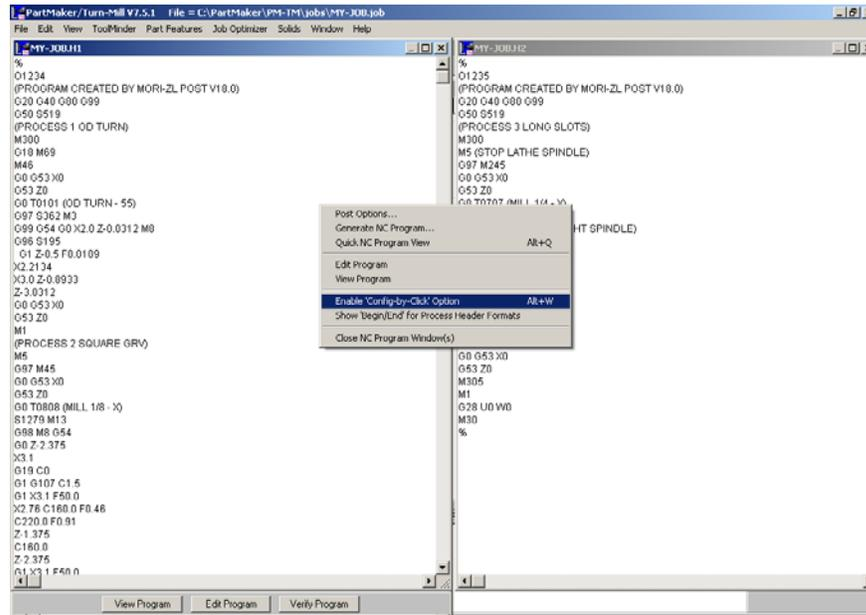

Figure 1: PartMaker's NC Viewer
- a While in PartMaker's NC Viewer, right click in the window and select the **Enable 'Config-by-Click'[®] Option** from the drop down menu as shown in Figure 1.